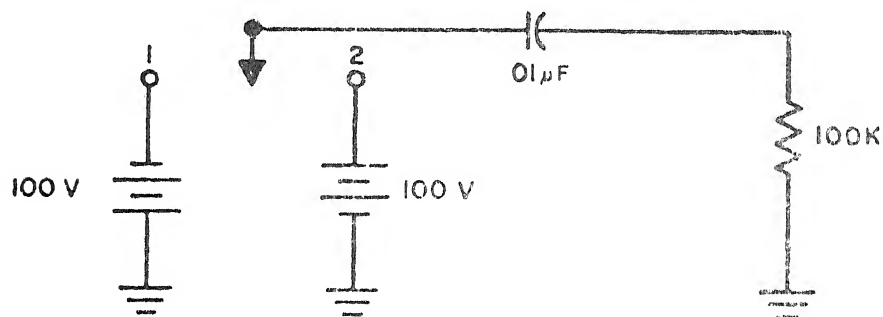

Figure 10
1. Another type of problem which is often encountered is where the initial charge on a capacitor is known, and it is desired to know the time which it will take for a capacitor to change its charge to a given value. This can also be applied to the voltage across the resistor. In figure 10 an example of this is shown.